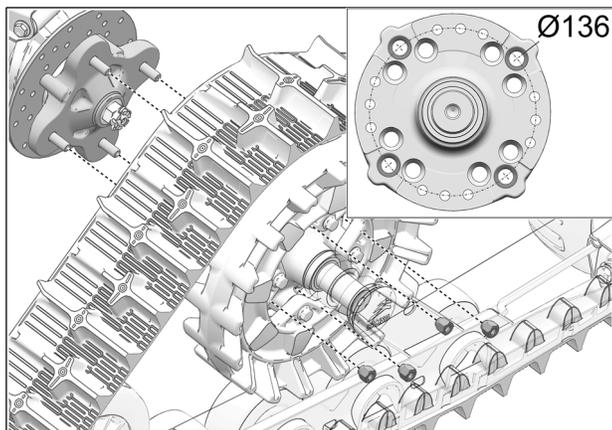

Fig. 18
8. Secure undercarriage to front hub using the vehicle's own lug nuts. Use bolt circle $\text{Ø}136 \text{ mm}$. See Fig. 18